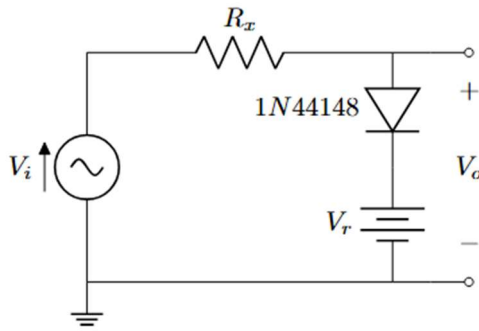

Figure 5 - Single Diode Clipper Circuit
As the name implies, a diode “clipper” circuit will be one intended to remove, or “clip off,” part of the output waveform. These may be used singly (Figure 5) to prevent reaching a certain value in the positive or negative portion of a waveform, or they can be used in pairs (Figure 6) to perform double-ended limiting at two independent levels. *R = 10 kΩ
- I. Consider the circuit shown in Figure 5. Let $V_i(t) = 5.0 \cdot \sin(377 \cdot t)$ and $V_r = 2.0\text{V}$. Sketch what you expect the output waveform $V_o(t)$ to be and show the maximum and minimum values of the output voltage. (1 Points)
- II. Simulate the clipping circuit shown in Figure 5. Let $V_r = 2\text{V}$ and the input voltage V_i be a 5 V-peak, 1 kHz sinusoidal voltage. Connect an oscilloscope (in Multisim) to V_o and adjust the timescales and volts/division as necessary. Take a screenshot of this waveform and compare it to your sketch. (4 Points)
- V. Construct the clipping circuit shown in Figure 5. Let $V_R = 2\text{ V}$ and the input voltage v_i be a 5-peak, 1 kHz sinusoidal voltage. Observe the output voltage V_o . This circuit transmits that part of the V_i waveform that is more negative than $V_r + V_T$. **(3 Points)**
- VI. Reverse the direction of the diode in the circuit of Figure 5. Then, observe and record the output voltage V_o . How does the output voltage compare to that of the last step? **(2 Points)**